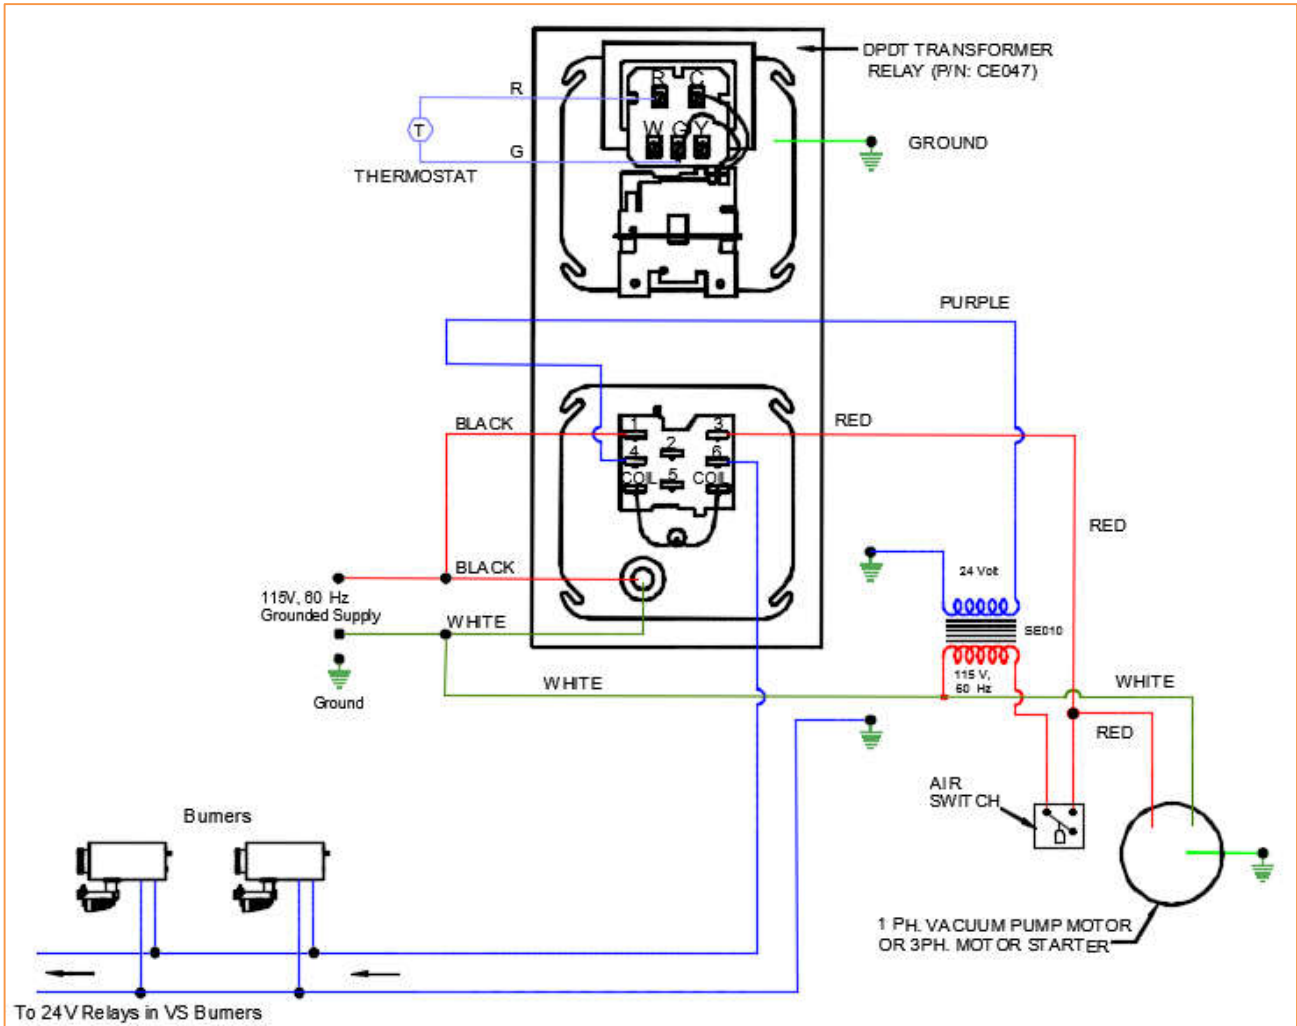

Figure 42: Control Panel Wiring Diagram (Optional)
1. Single Thermostat: Entire system operates as one Heating Zone, ON or OFF using one Relay to control the Vacuum Pump, Vacuum Switch and Burner Power (Figure 42).